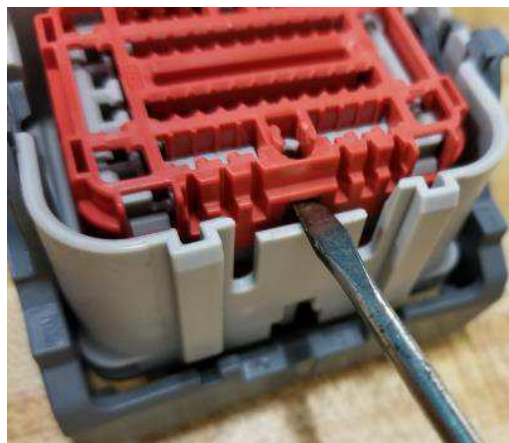

Figure 24
8.1 Female TPA Service: Use suitable flat blade screwdriver to pry the TPA in the center notch as shown in Figure 24. Each side of the TPA in the center has a notch for this action.